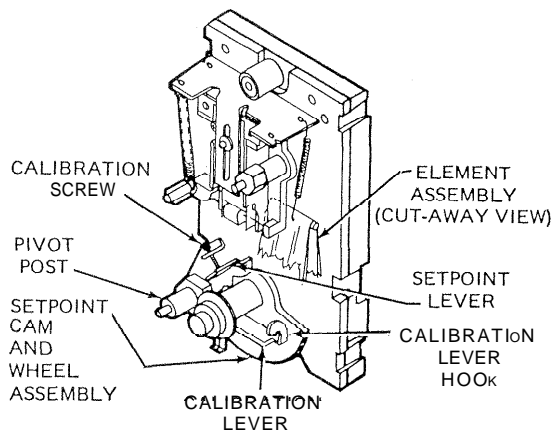

Fig. 9. Humidistat with Scaleplate Removed Showing Setpoint Cam Assembly.
- 3 Carefully unhook the element assembly yoke (Fig. 9 and IO) from the hook of the calibration lever, located immediately above and to the right of the setpoint wheel.
- 5 Remove the pivot post (Fig. 9) at the left of the setpoint wheel, the setpoint lever, and the calibration lever. Do not lose the spacer positioned between the base and the calibration lever.